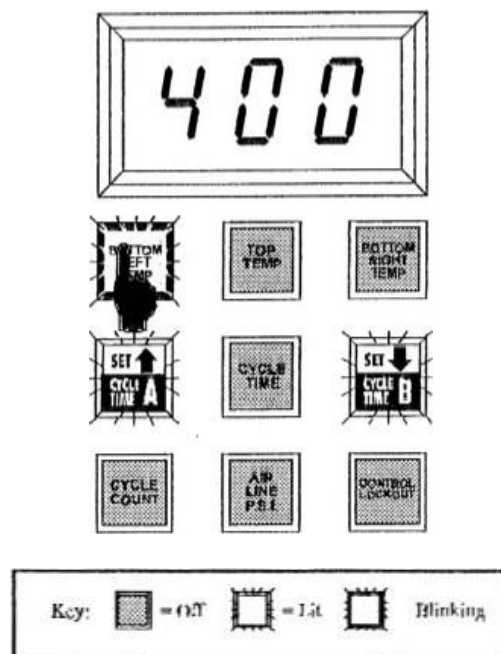

Figure 7-1
- While the control panel is in Monitoring Mode, press and hold the Bottom Left Temp button. After approximately two seconds, the panel's Up Arrow and Down Arrow buttons will light and the Bottom Left Temp button blinks, as shown in Figure 7-1. This puts the control panel in the Set Mode. Release the Bottom Left Temp button. The control panel displays the current setting for the bottom left platen temperature (not the actual temperature, as shown in Monitoring Mode); if the platen is set to off, the control panel displays three dashes.